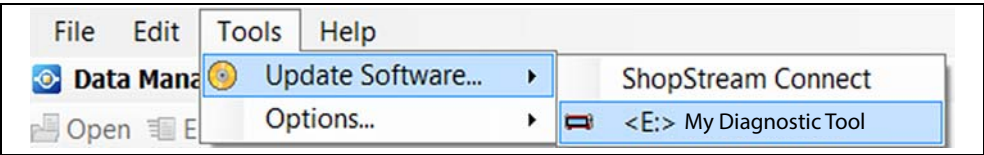

Figure 13-11
1. Select **Tools > Update Software >** (diagnostic tool type - e.g. ETHOS Edge, MODIS Edge, SOLUS Edge, etc.) from the Menu bar (Figure 13-11).